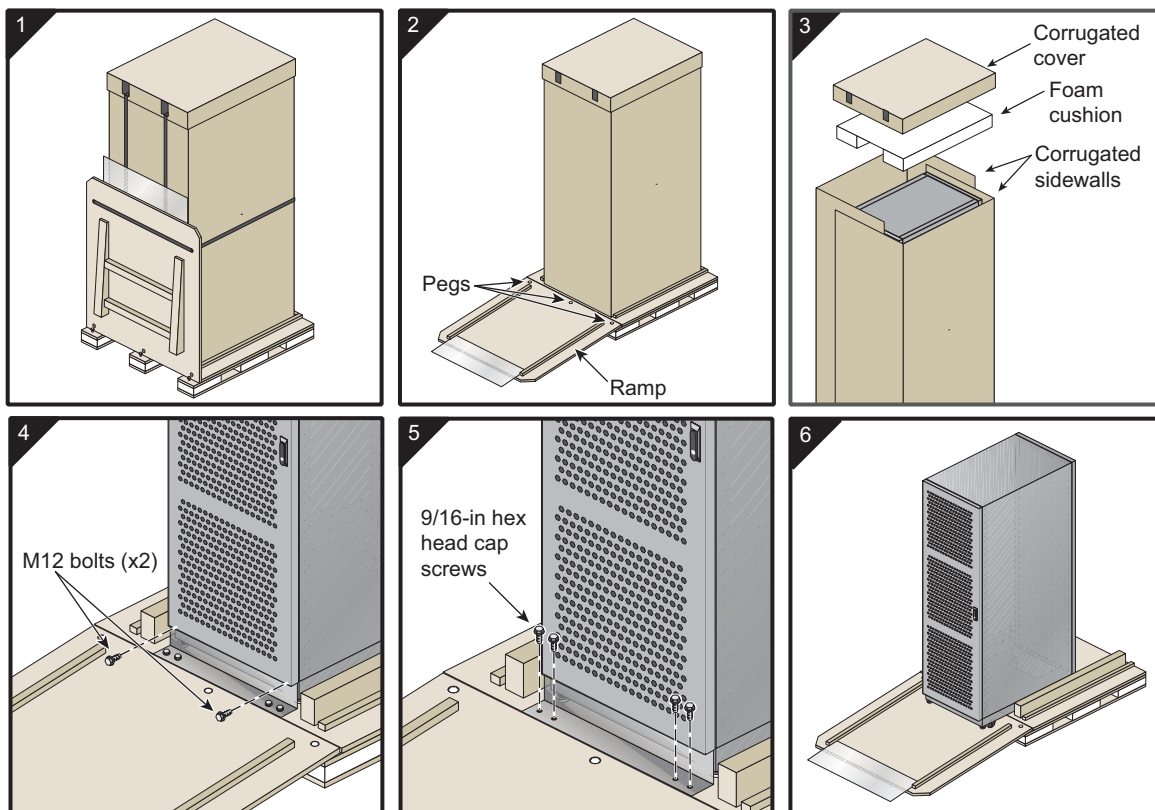

Figure 1-10 Removing a Tall Rack from the Shipping Container
Refer to Figure 1-10 as you follow these steps; the numbered illustrations correspond to the numbered steps. Ensure that the temperature of the rack is acclimated to the installation environment and that the system container is stable, and in an upright position
2. Position the ramp as shown in Figure 1-10. Holes in the ramp fit over the pegs in the base.